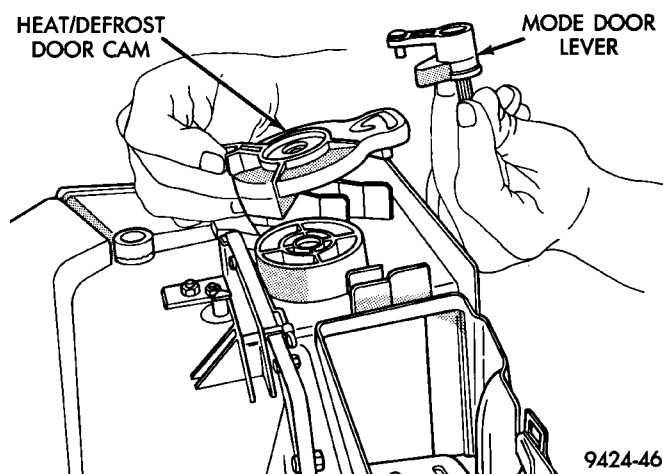

Fig. 53 Cam and Lever Removal
(9) Lift the cam and mode door lever off of the housing (Fig. 53).